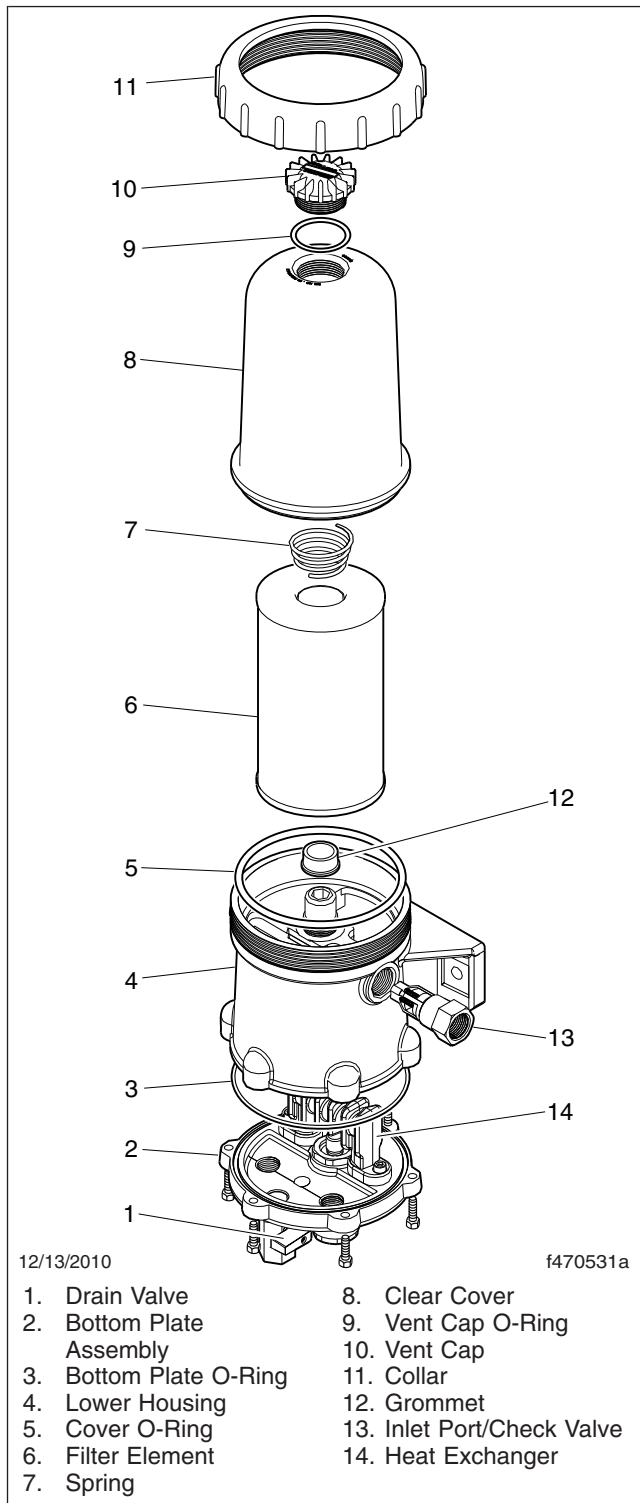
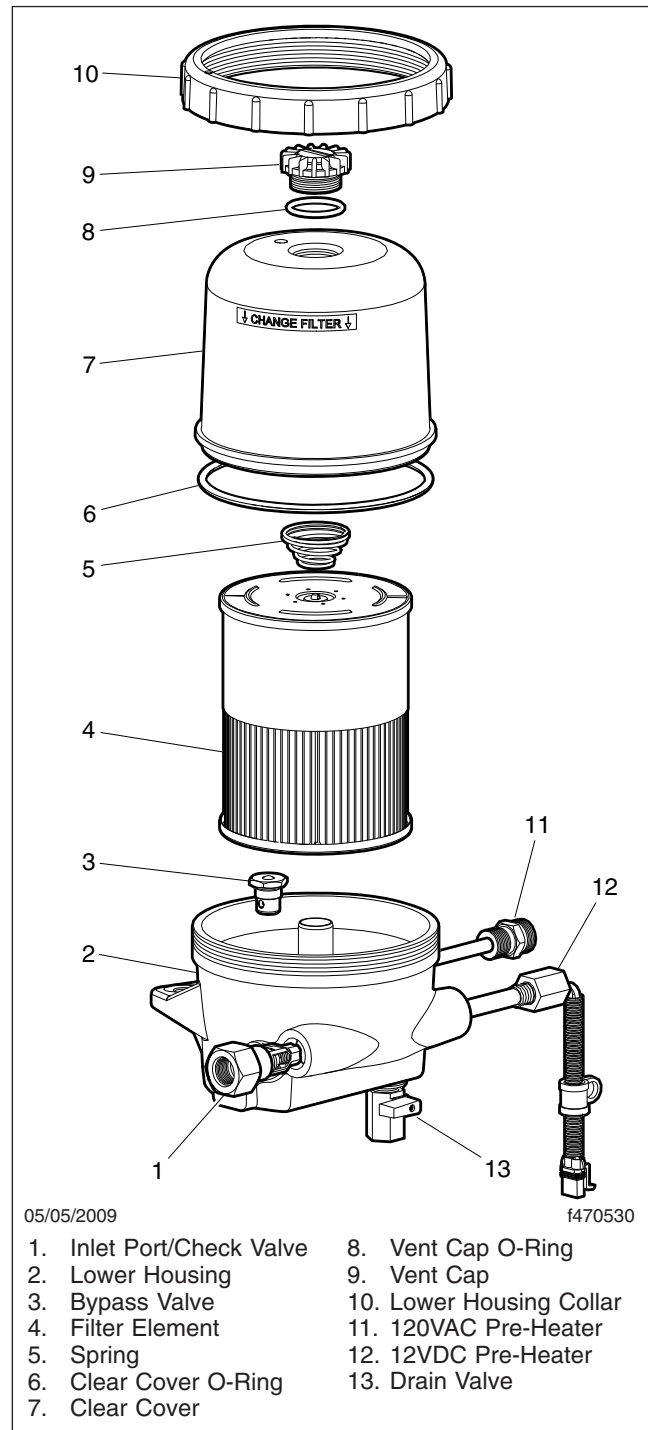

Fig. 4, DAVCO Fuel Pro 382
Fig. 5, DAVCO Fuel Pro 482
6. Remove the filter, cover O-ring, and vent cap O-ring. Dispose of them in an environmentally acceptable manner. See Fig. 4, Fig. 5, or Fig. 6.